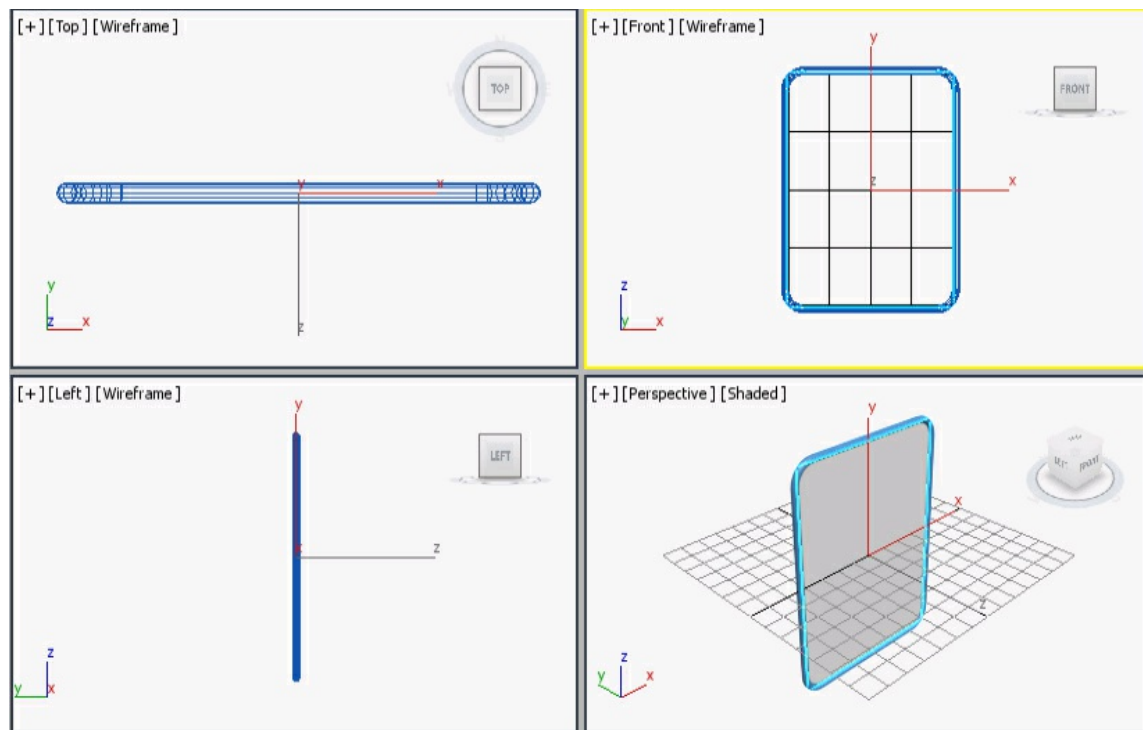

Figure 5-58 The rectangle displayed in the viewports
4. In the **Rendering** rollout, select the **Enable In Renderer** and **Enable In Viewport** check boxes. Make sure that the **Radial** radio button is selected. Next, set the value **3.5** in the **Thickness** spinner. Figure 5-58 shows the rectangle displayed in the viewports.